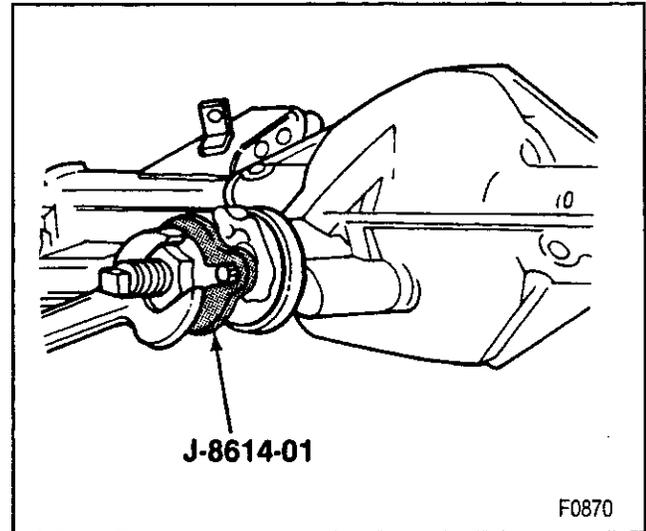

Figure 20—Installing the Pinion Flange
- 3. Flange onto the pinion using J 8614-01 (figure 20).